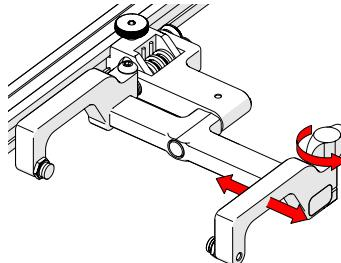

Fig. 116 - Arm adjustment
2. The probe holder arm adjustment knob can be rotated (Fig. 116), this allows placement of the HydroFORM™ by positioning the probe holder arm accordingly.